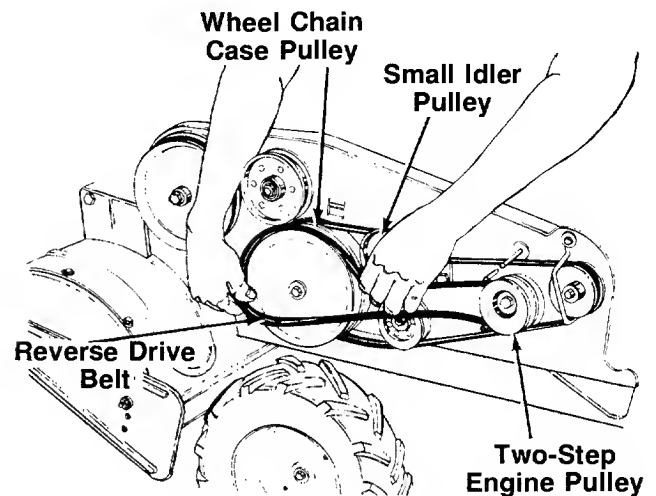

FIGURE 26.
3. To remove the reverse drive belt, lift up on small idler pulley as shown in figure 26. Slip belt off outside sheave of wheel chain case pulley. Then remove belt from two-step engine pulley.